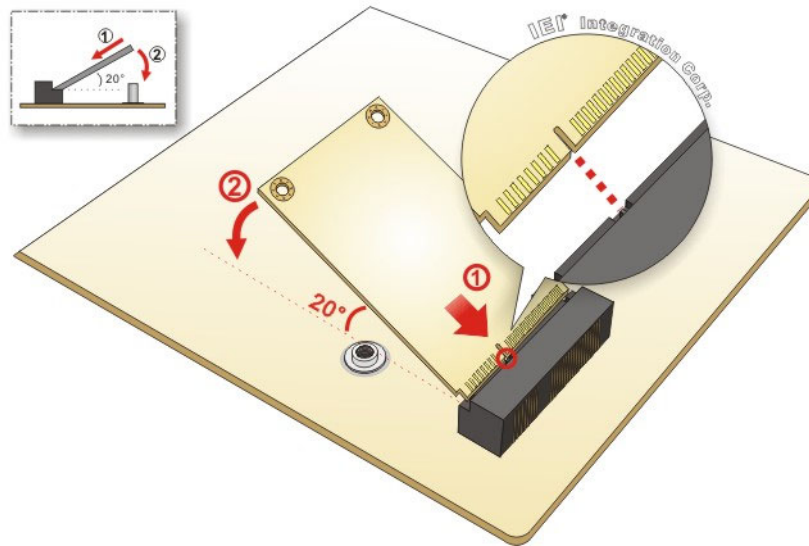

Figure 4-9: Inserting the Full-size PCIe Mini Card into the Slot at an Angle
- Step 3:** Insert into the socket at an angle. Line up the notch on the card with the notch on the slot. Slide the PCIe Mini card into the socket at an angle of about 20° (Figure 4-9).